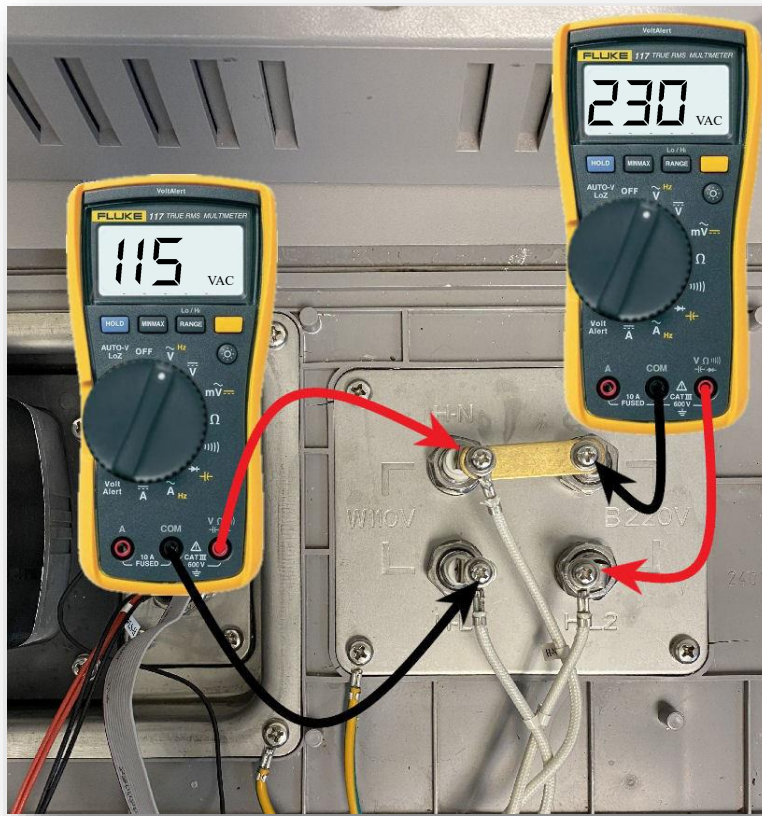

Figure 37 - Heating Element Input Voltage
- b. Set the Multimeter to AC voltage \tilde{V} . With power applied and the heat setting activated, press the Start Button  and check the voltage to the Heating Element (**See Figure 37**).
- i. On 120V AC (US) Systems, if the Multimeter reads ~ 115 VAC between HN \rightarrow H-L1, the Control Panel and the PCB are operating correctly.